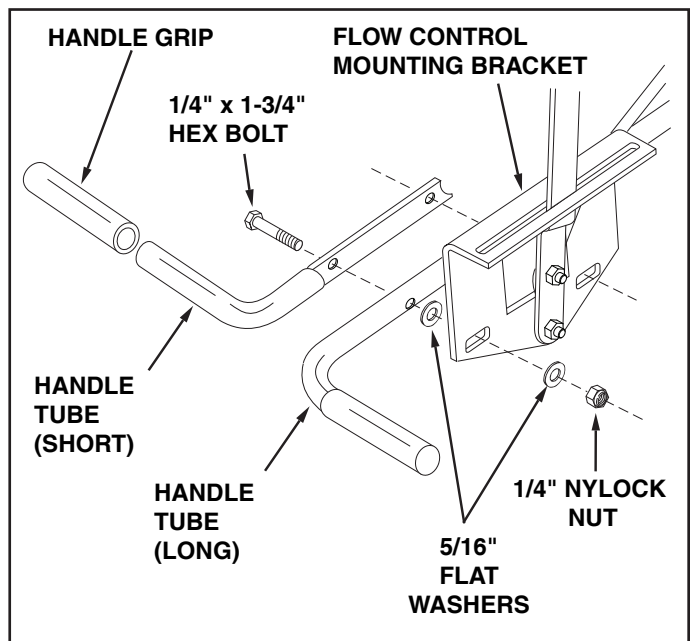

FIGURE 11
19. Assemble both the flow control mounting bracket and the short handle tube to the long handle tube. Use two 1/4" x 1-3/4" hex bolts, four 5/16" flat washers and two 1/4" nylock nuts as shown in figure 11. **Do not tighten at this time.**
20. Place a handle grip on each handle. See figure 11.